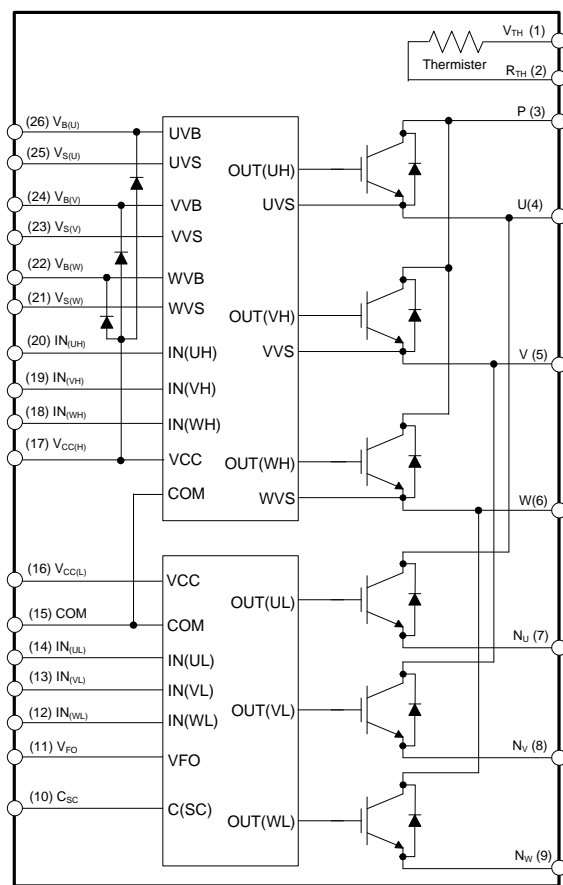

Figure 3. Internal Block Diagram
- 600 V - 5 A IGBT inverter for three-phase DC / AC power conversion (please refer to Figure 3)